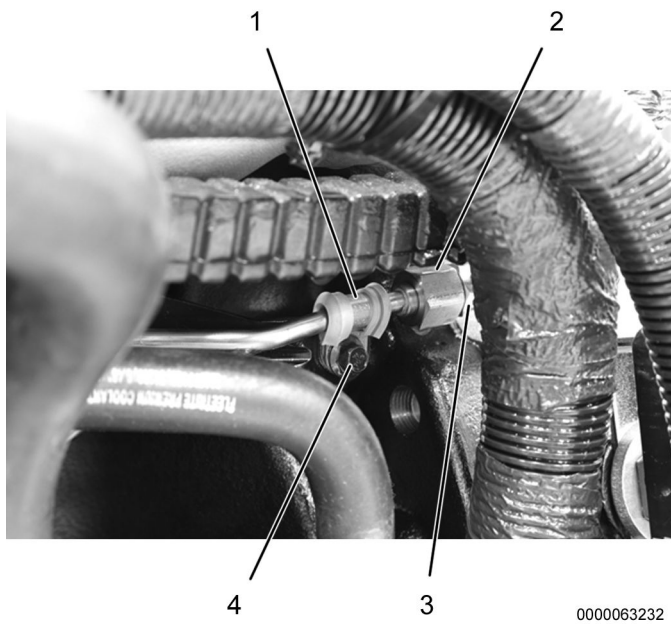

Figure 7. HCl Fuel Tube 1.
16. Disconnect HCl fuel tube 1 (Figure 7, Item 2) from HCl fuel tube 2 (Figure 7, Item 3) and install cap ZTSE4891.
17. Remove three bolts (Figure 7, Item 4 and Figure 8, Item 2), P-clamps (Figure 7, Item 1 and Figure 8, Item 1), and HCl fuel tube 1 (Figure 7, Item 2) from vehicle.
18. Install new HCl fuel tube 1 (Figure 7, Item 2) on vehicle with three P-clamps (Figure 7, Item 1 and Figure 8, Item 1) and bolts (Figure 7, Item 4 and Figure 8, Item 2).
19. Using torque wrench, torque three bolts (Figure 7, Item 4 and Figure 8, Item 2) to 115 lb-in (13 N·m).